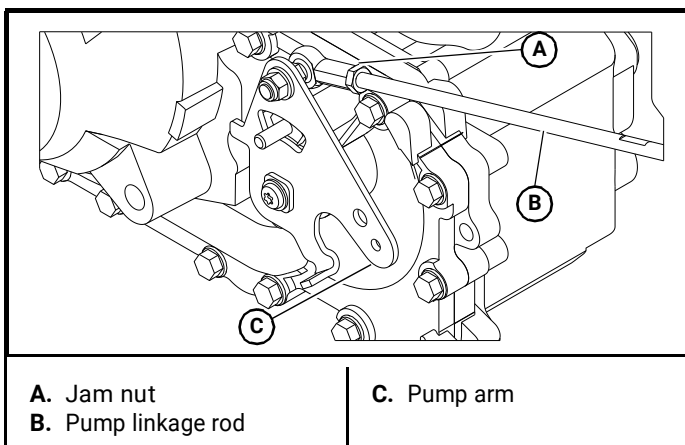

Figure 4-3
6. If wheel(s) are rotating forward, loosen the jam nuts on the pump linkage rods and rotate the rod to shorten the steering control linkage until the wheel(s) come to a stop. Figure 4-3
8. If wheel(s) are rotating in reverse, then loosen the jam nuts on the pump linkage rods and rotate the rod to lengthen the steering control linkage until the wheel(s) come to a stop. Figure 4-3